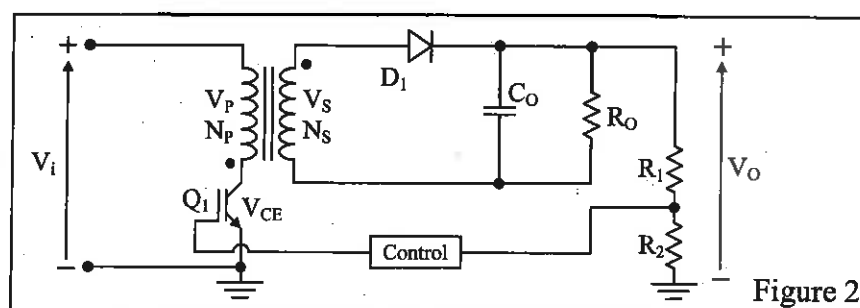

Figure 2
- 4.1 The average DC input voltage of a switch mode DC power supply circuit shown in figure 2, is 300V. The output ripple current is negligible and load resistance is 3 $\Omega$ . The switching frequency is 10 kHz and the duty cycle has been set to 50%. The on state voltage drops of the IGBT and diode is 1.2V and 0.7V respectively. The turns ratio of the transformer ( $N_S/N_P$ ) is 0.35 and the transformer losses are negligible.
- 4.1.6 What is the circuit topology in figure 2, commonly referred to as? (1)